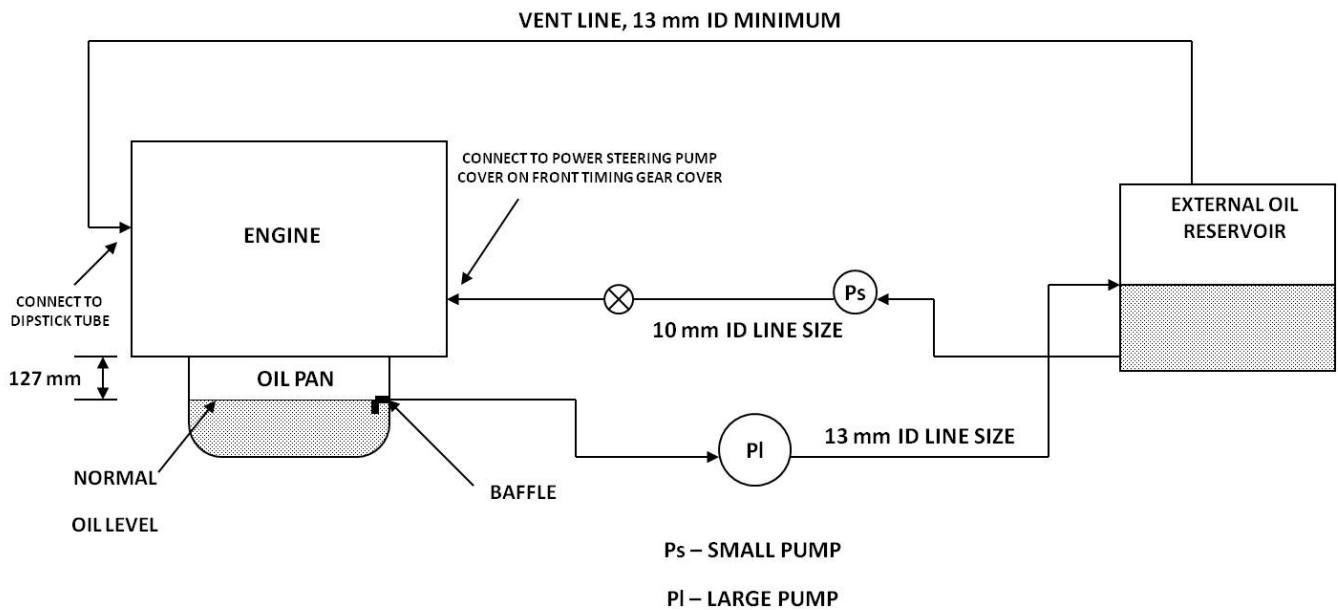

FIG. A1.1 Auxiliary Oil System
Via email ballot it is was decided to change the T-12 test method to clarify the required size of the supply and return lines for the T12 auxiliary oil system. Section 6.2.3.1 has been modified and is attached. Figure A1.1 has been updated and is attached as well. This change is effective April 28, 2014.
6.2.3.1 To maintain a constant oil level in the pan, provide an additional 9.5 L sump by using a separate closed tank connected to the sump. Circulate oil through the tank with an auxiliary pump. The system schematic is shown in Fig. A1.1. The supply line to the tank from the sump is to have an inside diameter of 13 mm. The return line from the tank to the sump is to have an inside diameter of 10 mm. Use a vent line with a minimum inside diameter of 13 mm.
A1.1 Properly locating the sensor devices is important to this test. The following figures indicate the sensor locations for the T-12 engine components. See Figs. A1.1-A1.17.